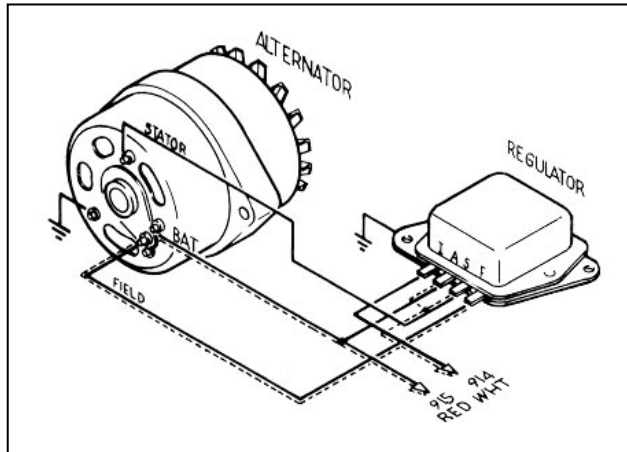

Figure 8-1A Ford Alternator (2 configurations)
8.1.5 An alternate (and less-used) method is to omit the Alternator Stator wire, install a 14-gauge jumper across Voltage Regulator terminals A & S, and connect wire #914 to either the A or S terminal of the Voltage Regulator. The FIELD wire and wire #915 are connected as above. Do **NOT** install a jumper as in **Paragraph 8.1.2**. The Voltage Regulator Ignition (I) terminal is not connected. Install ground wires as in **Paragraph 8.1.4**. This alternate configuration is illustrated in dashed lines in **Figure 8-1A**.